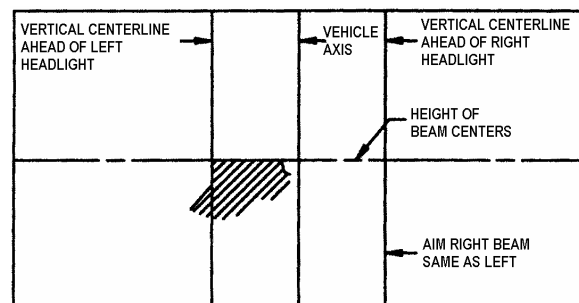

FIGURE 59: HIGH-INTENSITY ZONE (SHADED AREA) OF A PROPERLY AIMED LOWER BEAM ON THE AIMING SCREEN 7.6 M (25FT) IN FRONT OF VEHICLE
- Low beam headlights are aimed so that the top edge (the cutoff) of the high-intensity zone is at the vertical location as per Table 1 and the left edge of the high-intensity zone is at the vertical centerline of the headlight (Fig. 59).